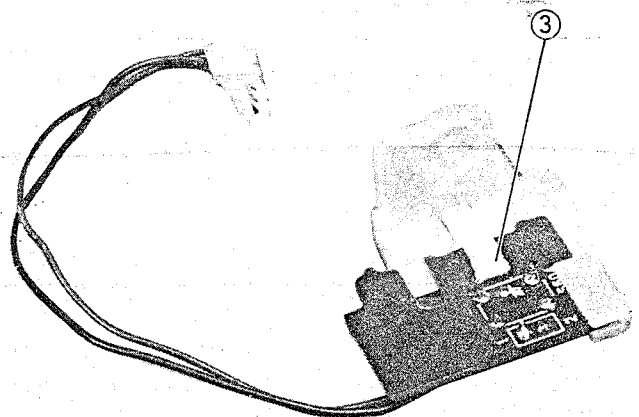

Fig. 2-44 VTR REC Switch Circuit Board Removal
3. Release one (1) tab and remove the VTR REC switch circuit board. (See Fig. 2-44)